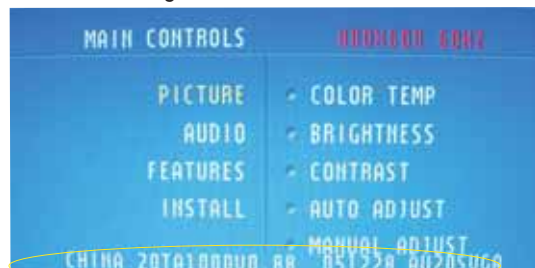

Fig. 1
- 3). Press "MENU" button and bring up factory mode indication as shown in Fig.1